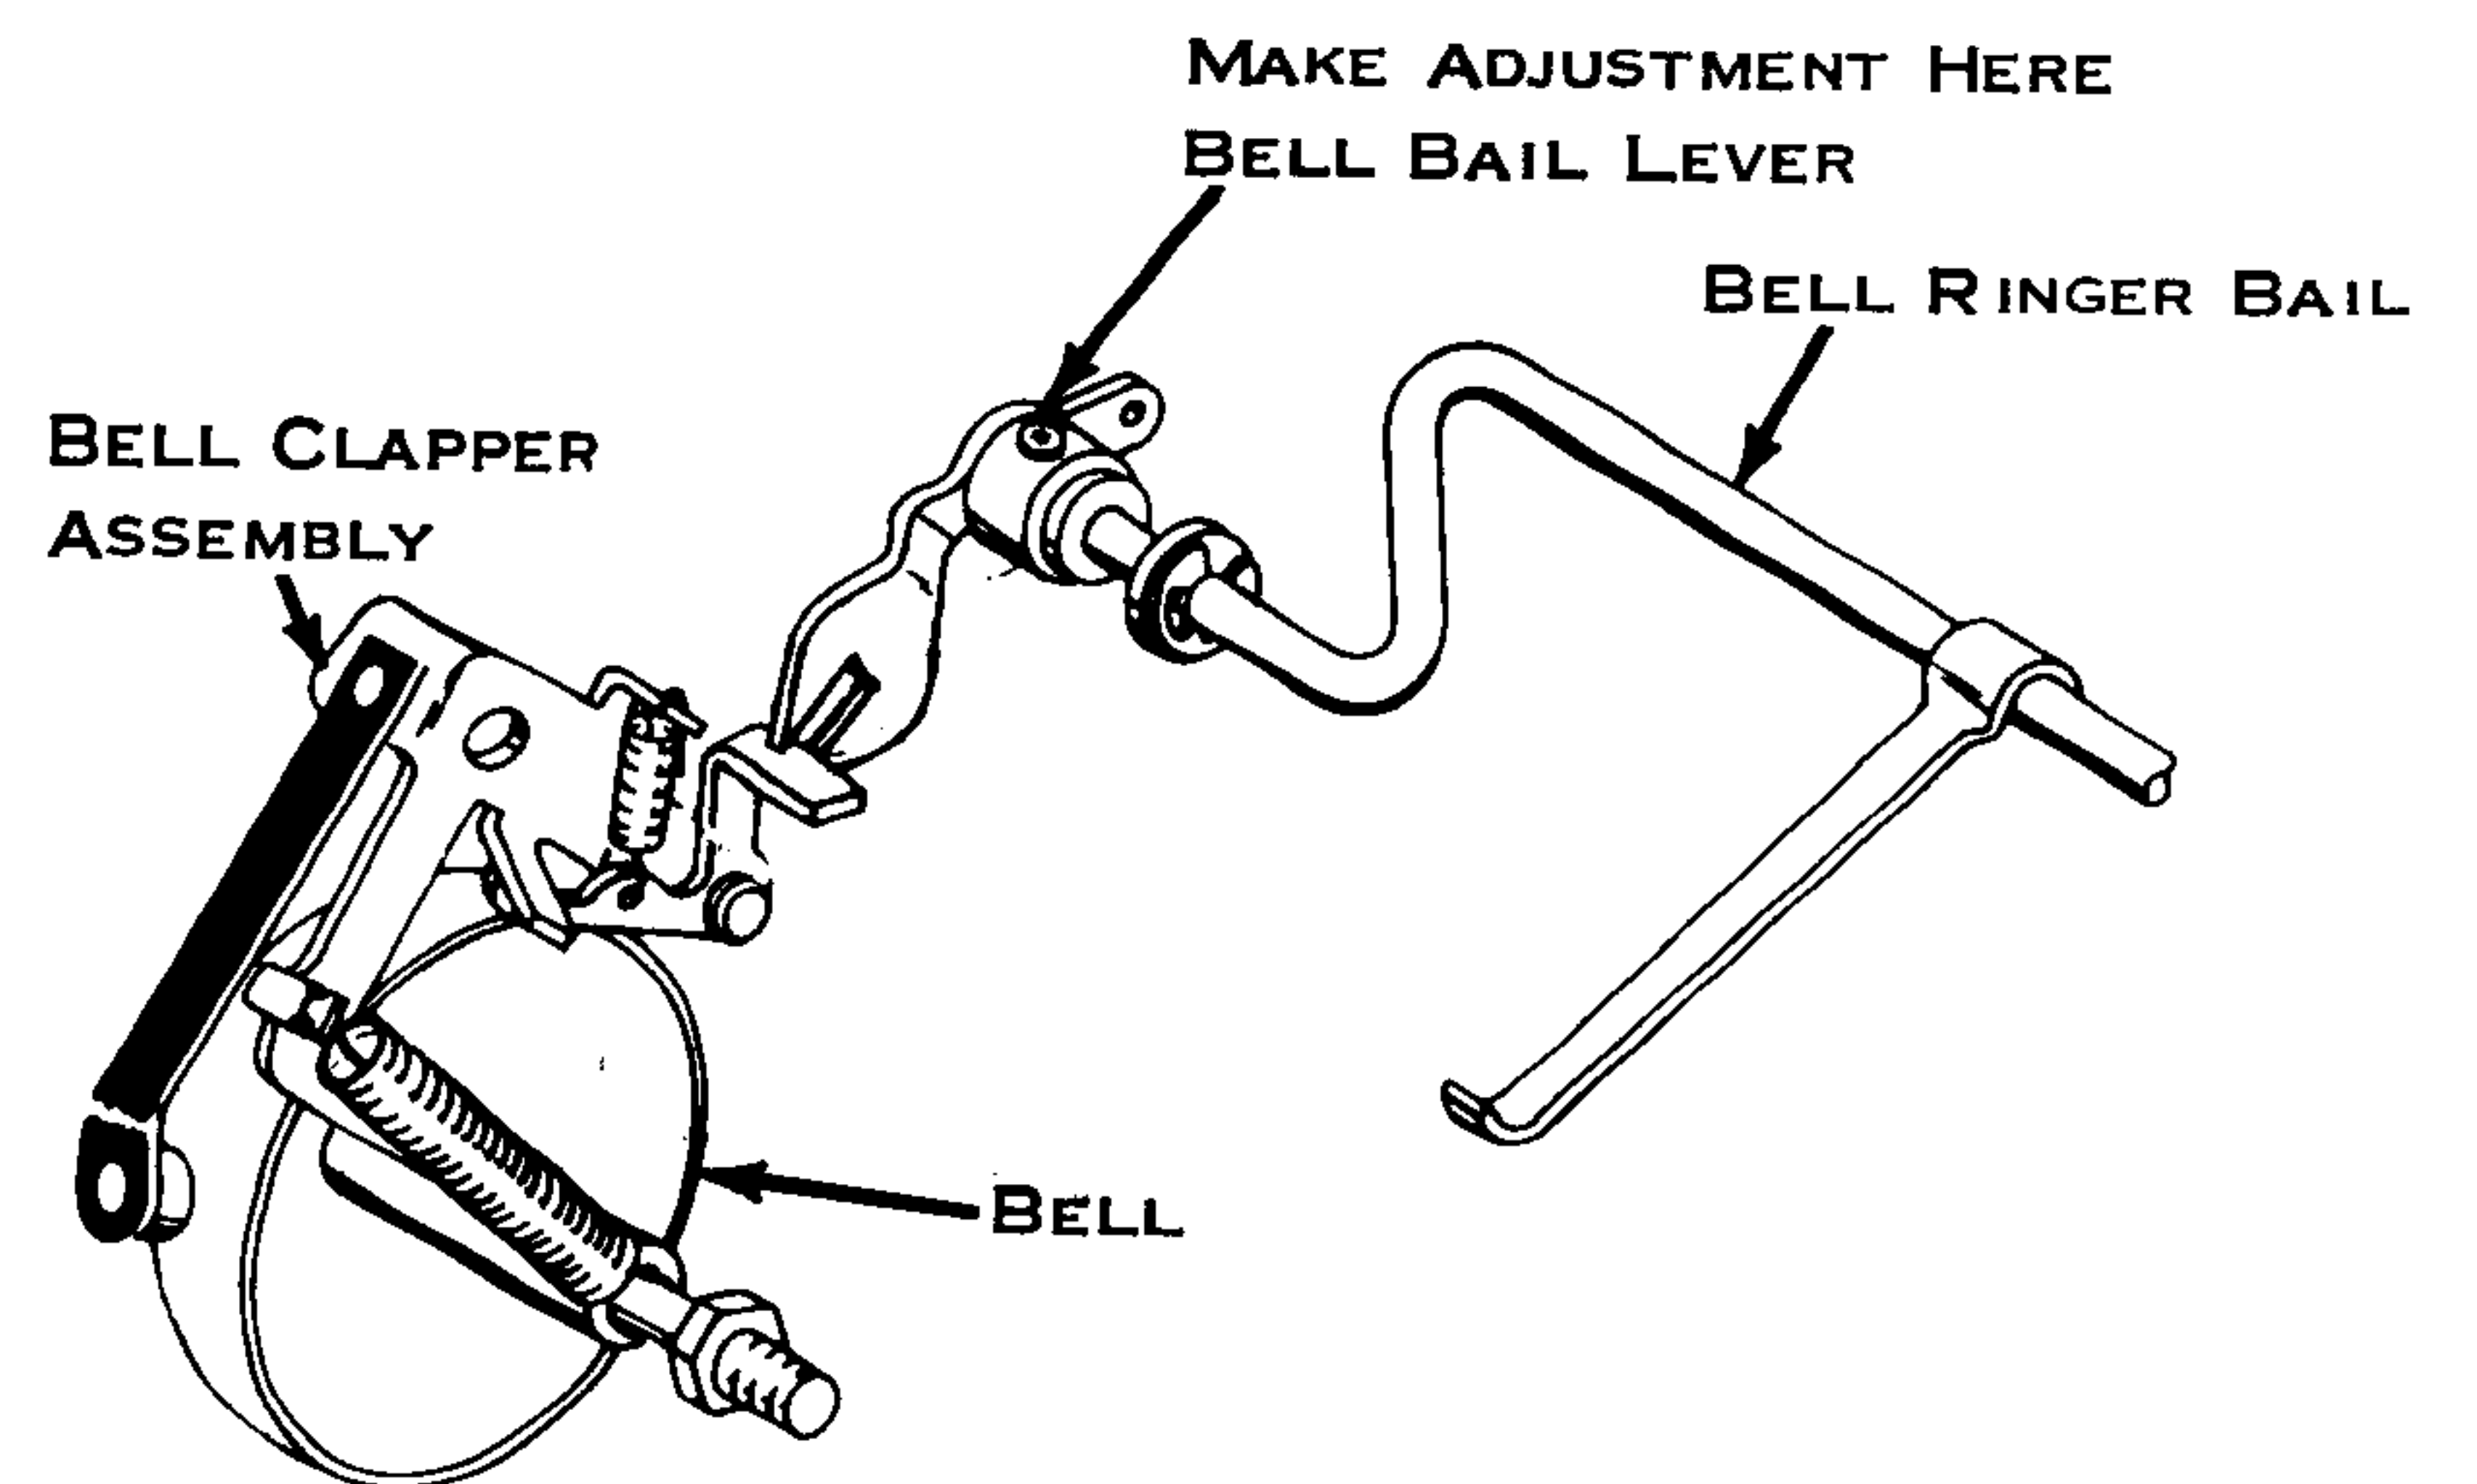

Figure 189. Bellringer Bail (New)
- Machines With Bell - Adjust so the bellringer bail clears the bellringer bellcrank by .005" to .020" with the bellringer bellcrank held counterclockwise. On old style machines, the bail stop is on the right end of the bail. On new style (Fig. 189) adjust by positioning bell bail lever with respect to the bellringer bail.